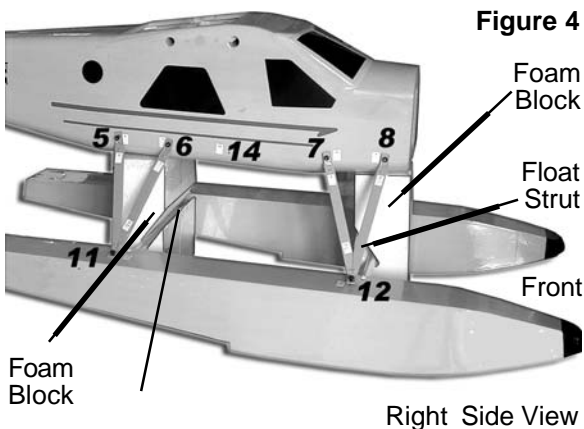

Figure 4
Step 14: Carefully review Figure 4 below and Figure 6 on Page 4. Cut two foam or cardboard blocks to serve as a cradle for your fuselage. Adjust the angles of the fuselage to align the strut ends with the floats and the pre-installed fuselage hard points in your Beaver 60-90 ARF or to the hard points you may have installed in Step 6.